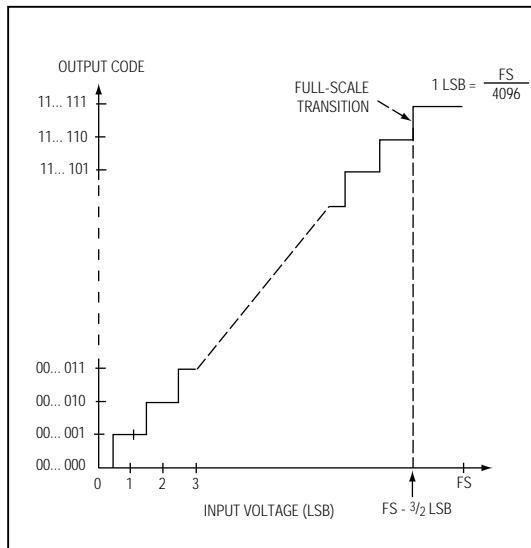

Figure 10. Unipolar Transfer Function
Output data coding for the MAX197 is binary in unipolar mode with $1LSB = (FS / 4096)$ and twos-complement binary in bipolar mode with $1LSB = ((2 \times |FS|) / 4096)$. Code transitions occur halfway between successive-integer LSB values. Figures 10 and 11 show the input/output (I/O) transfer functions for unipolar and bipolar operations, respectively. For full-scale (FS) values, refer to Table 1.